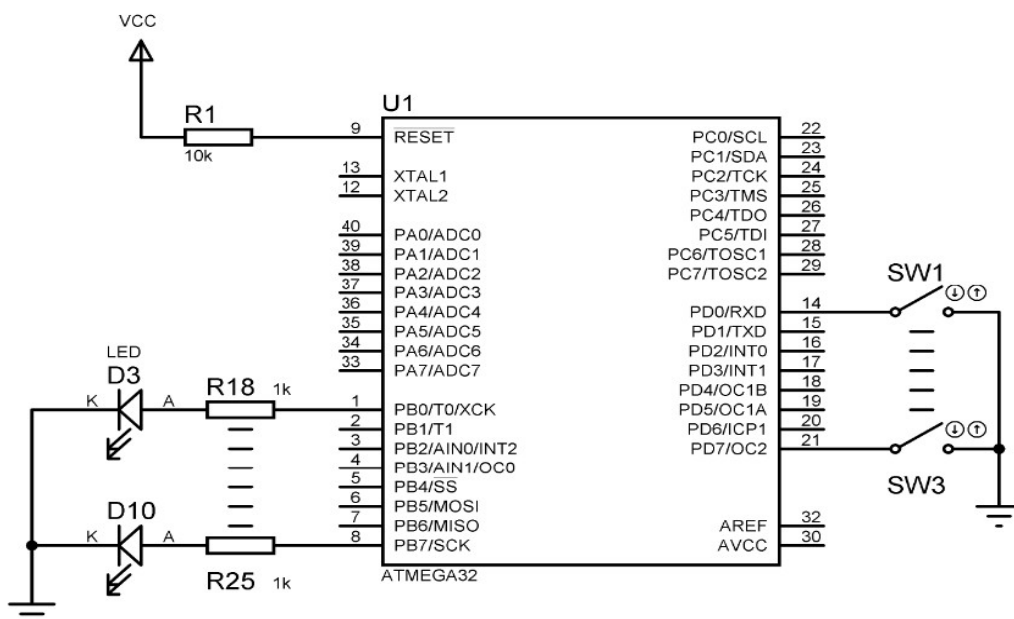

figure 8.1
2. Implement the circuit as shown in figure 8.1 and give the power.